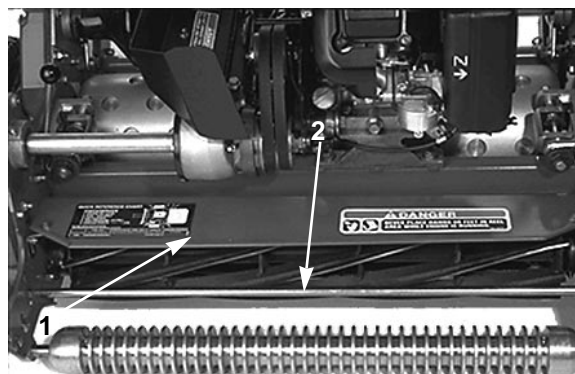

Figure 10
1. Measure the distance from the top of the front support rod to the front lip of the shield at each end of the cutting unit (Fig. 10).